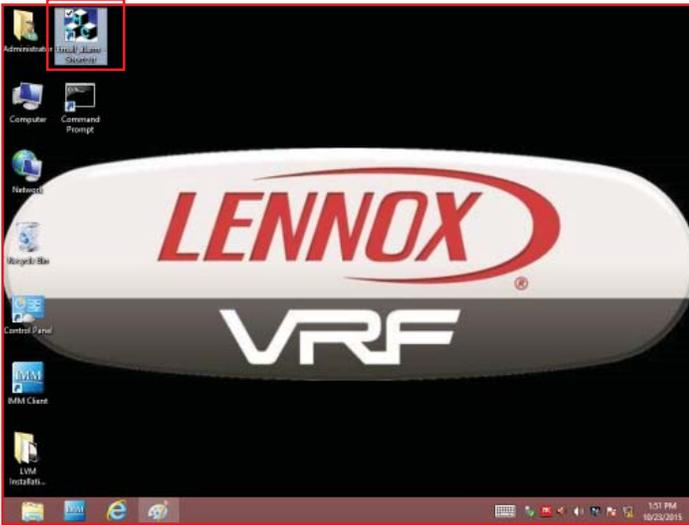

Figure 63. Email Alarm Shortcut
1. Go to Desktop and locate the Email Alarm shortcut. See figure 63.